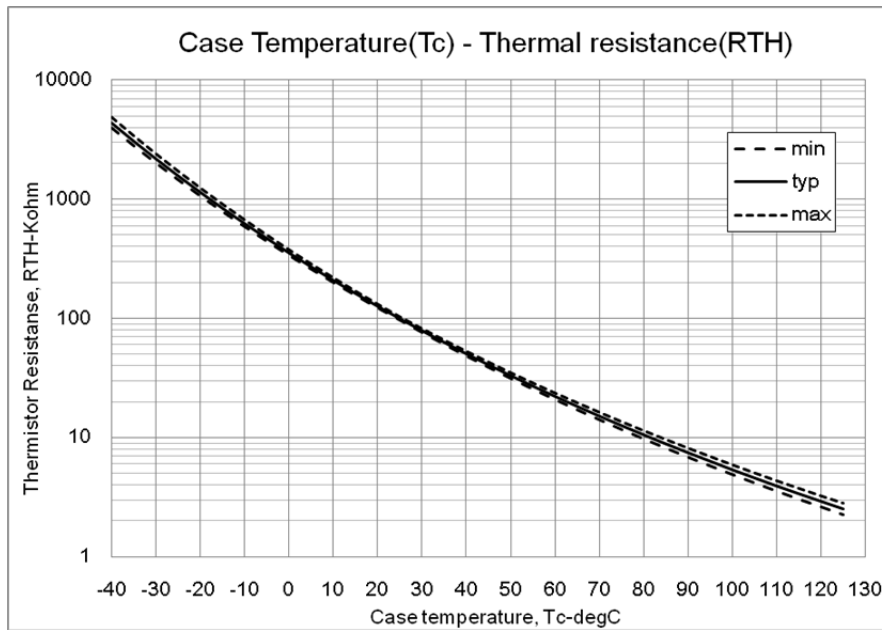
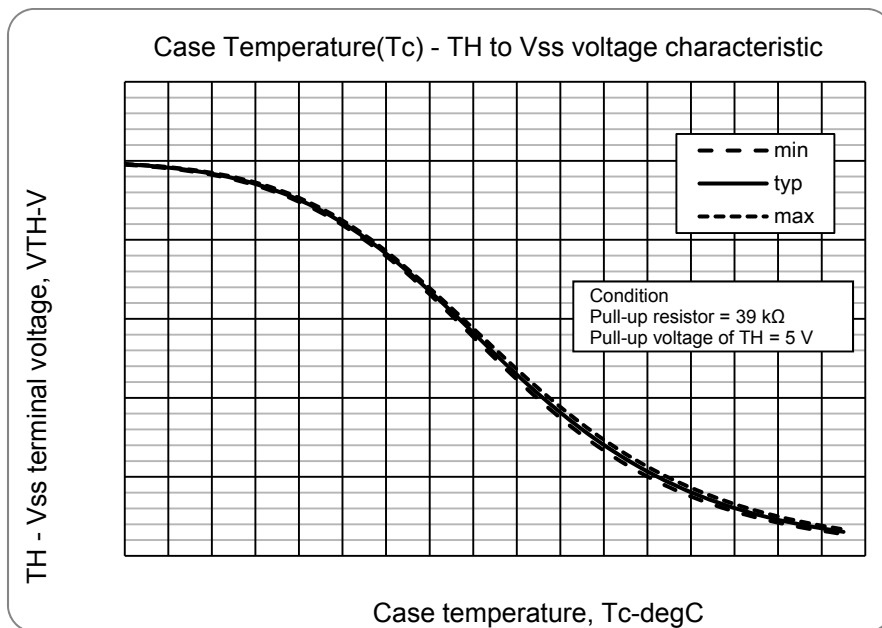

Fig. 10
Fig. 11
- Inside the IPM, a thermistor used as the temperature monitor for internal substrate is connected between VSS terminal and TH terminal, therefore, an external pull up resistor connected between the TH terminal and an external power supply should be used. The temperature monitor example application is as follows, please refer the Fig.10, and Fig.11 below.